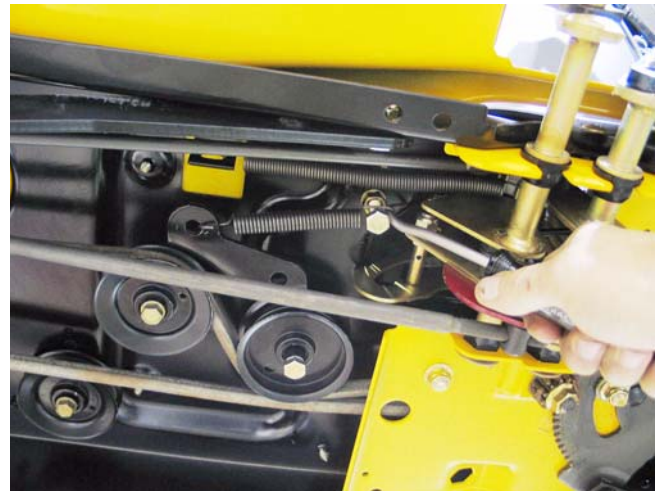

Figure 23.6
- 23.6. Carefully release the spring that maintains tension on the double idler bracket using a length of starter rope or an appropriate tool. See Figure 23.6.